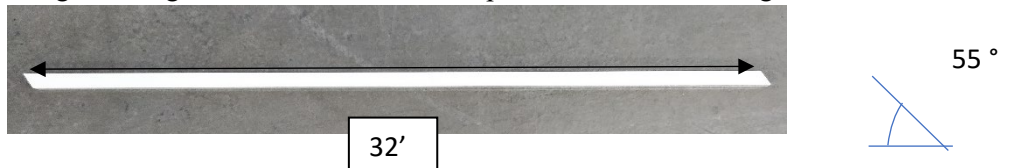

Figure 8 Angled Picket Cuts
2. Using the mitre saw set to a 35-degree angle (will produce a 55-degree acute angle), cut 2 pickets to 32 inches long. The angles for each cut should be parallel, as shown in Figure 8